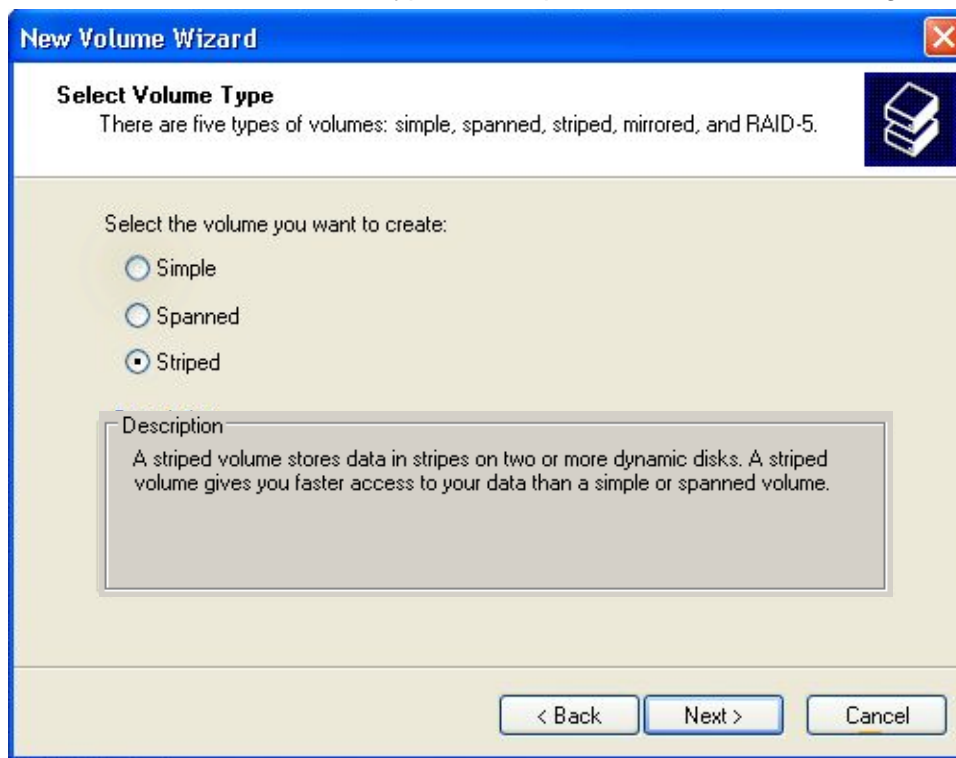

FIGURE 6-28. New Volume Wizard - Select Volume Type Screen, Showing “Striped” Selected.
1. When the *New Volume Wizard - Select Volume Type* screen appears, set the “Volume Type” to “Striped”. Click **NEXT >**. See Figure 6-28.